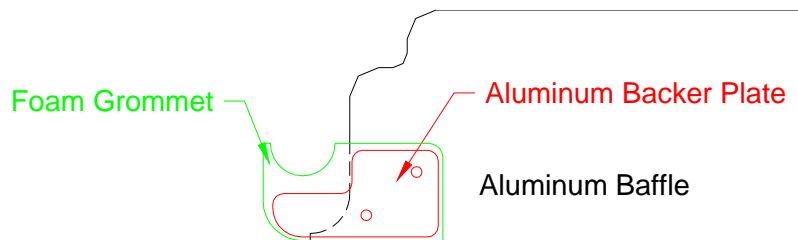

Figure 5
- 26) Sandwich the foam grommet in between the baffles and the small backer plates to the inside of the pan. The grommet should fit firmly into the corner of the pan. Drill 2 holes in the aluminum backer plates through the foam grommet and the baffles. The holes and the grommet position are shown in Figure 5 below. The shorter grommets/ backer plates are for the front. The longer grommets/ backer plates are for the rear. Attach with supplied bolts.